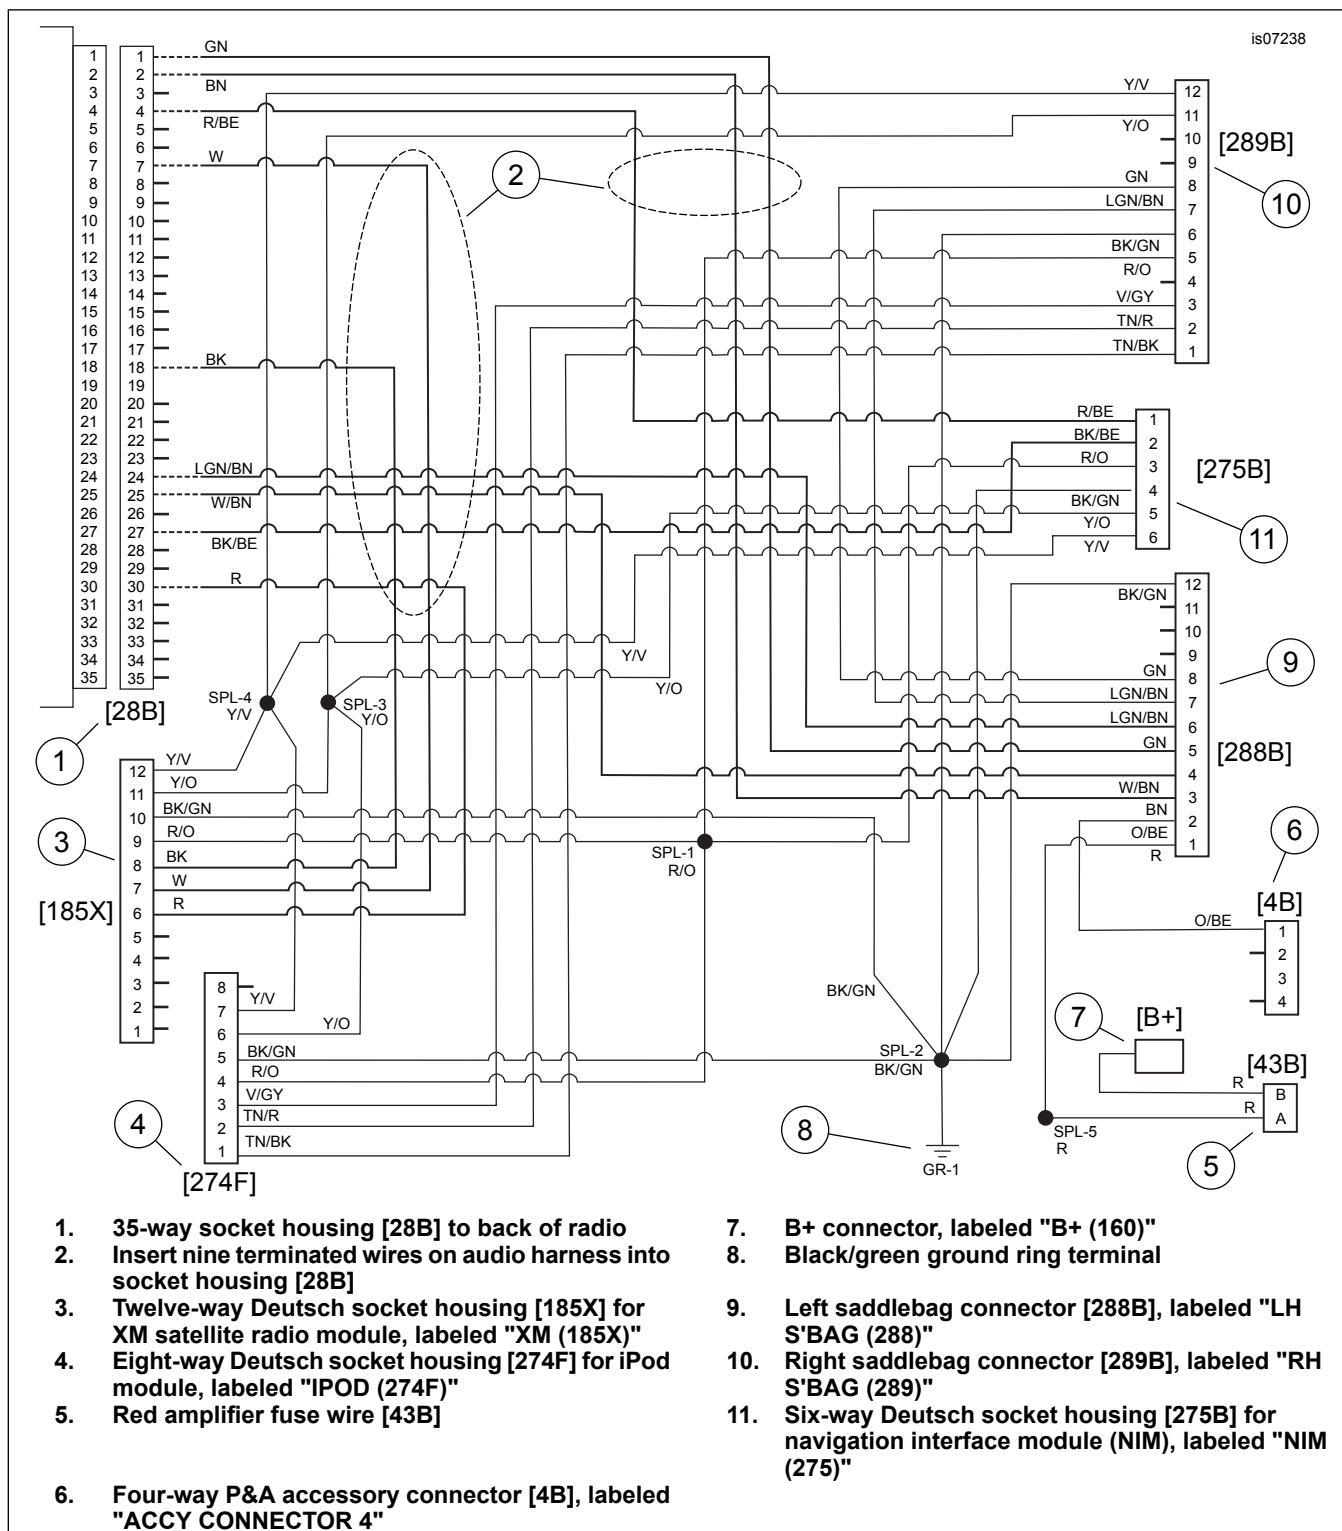

Figure 6. Wiring Diagram, Audio Harness 69200477
6. See Figure 6. Position the "B+ (160)" connector (7) and "ACCY CONNECTOR 4" (6) in the area under the seat. Position the fuse holder (5) in an easily accessible location. Mate connector [160] (7) to the B+ connector on the vehicle. Mate gray four-way socket housing [4] (6) to pin housing [4A] on the vehicle.
7. Fasten the ring terminal [GR-1] (8) to the right-side ground stud.